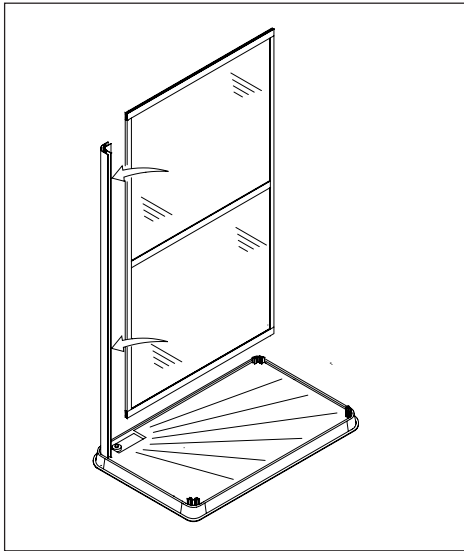

Fig 4.2
3. Fig 4.2 Locate the large rear back panel (3) into the channel in the corner post.